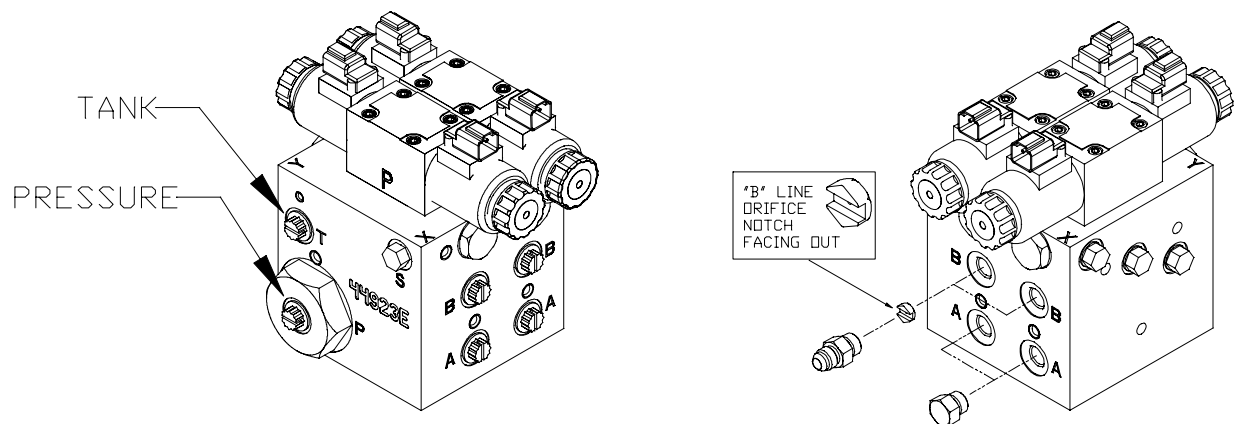

Figure 26: NORAC Valve Block Details
3. Insert the two orifices into the "B" ports. Note the orifice orientation in Figure 26.